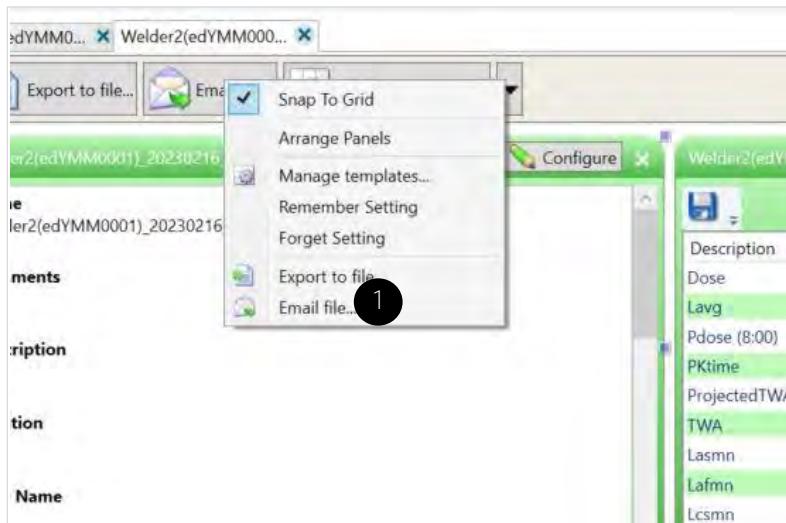

Figure 1-50: Edge and emailing data
1. To email data, click the Panel Options drop-down (see **1** of Figure 1-50) and click **Email file...**